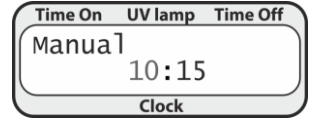
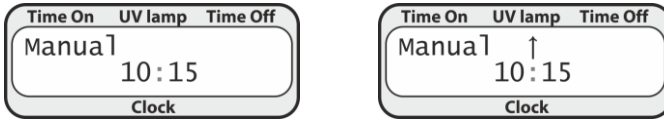

Figure 9. Manual mode setup
Figure 12. UVR-Mi in Manual mode.
5.2.8 **Manual mode (figure 9, figure 12).** Select the mode (see 5.2.2-3). Optionally, setup the current time. Press **Run/Stop** to apply the changes (see 5.2.4).
- In Manual mode, recirculator is controlled by pressing the **Run/Stop** key, see fig. 12.